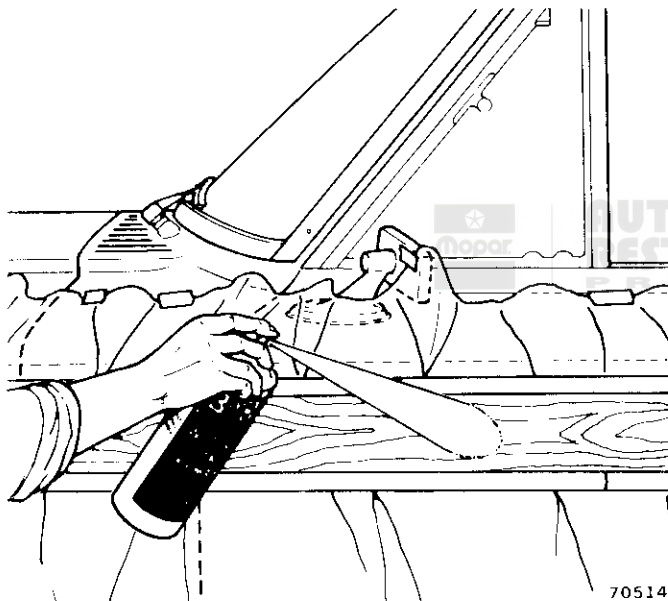

Fig. 3P-20 Spraying Remover on Overlay
(1) Clean repair surfaces, adjacent panels and openings as required.
(2) Remove overlay, reveal mouldings, door handles, lock assembly, side marker lamps or other overlapping parts from the affected panel.
(3) Mask off area surrounding the panel.
(4) Spray 3M Woodgrain and Stripe Remover, or equivalent, on flange area first. Then spray entire overlay to be removed (fig. 3P-20). Move spray can back and forth across entire overlay in a smooth steady motion. Make sure entire overlay is coated with remover.